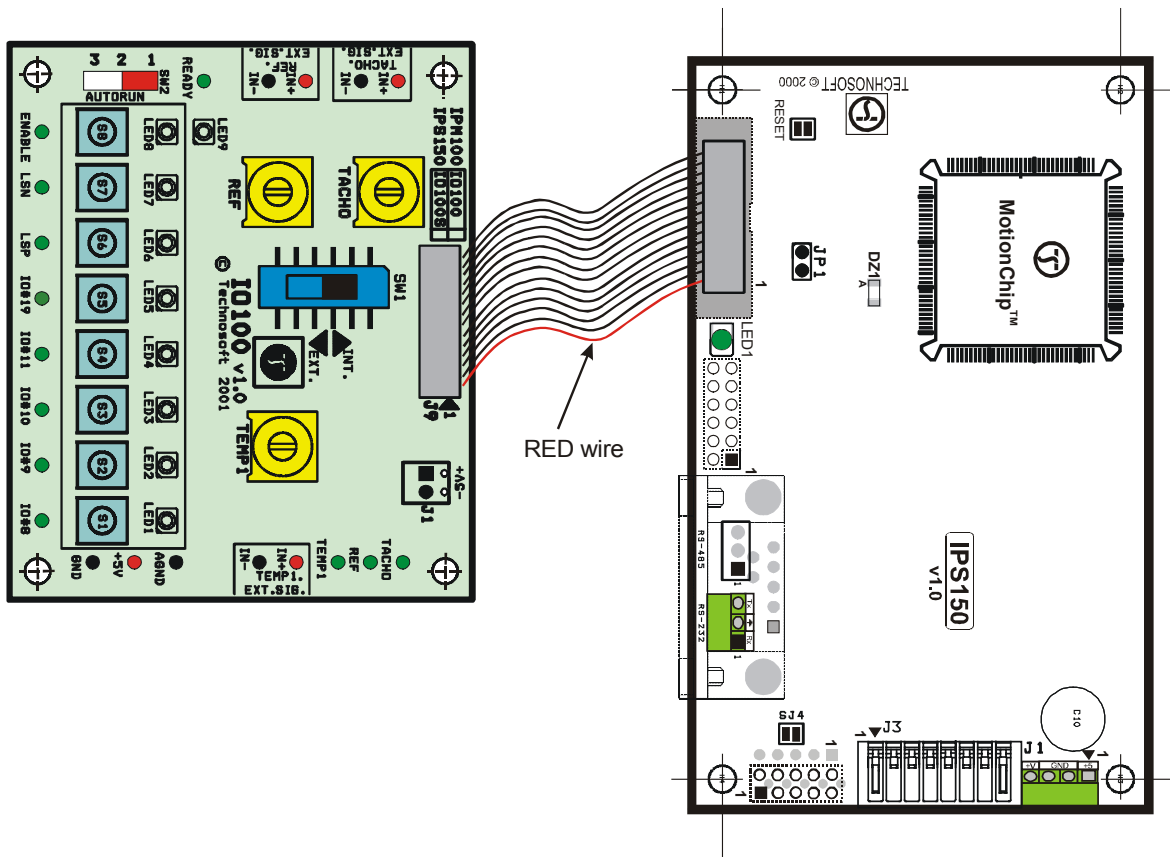

Figure 5. Connecting IO100S with IPS150 board
3. If you have also an IO100S board then please connect it to the IPS150 drive as you can see in the Figure 5